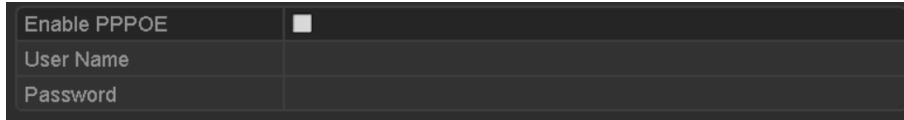

Figure 11-8 PPPoE Settings Interface
Step 2 Select the **PPPoE** tab to enter the PPPoE Settings interface, as shown in Figure 11-8.